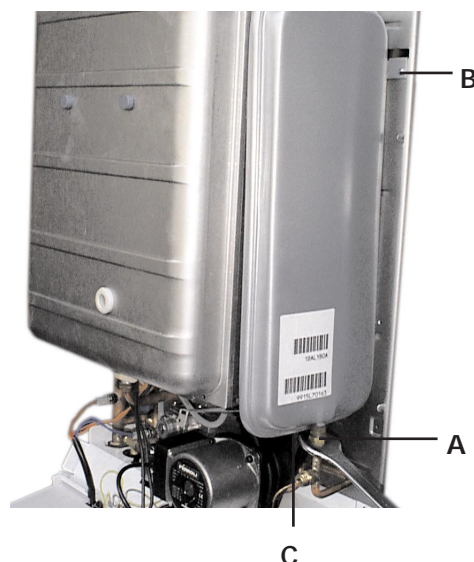

Fig. 32
7.04 Remove and re-presurising of C.H. expansion vessel (fig. 32)